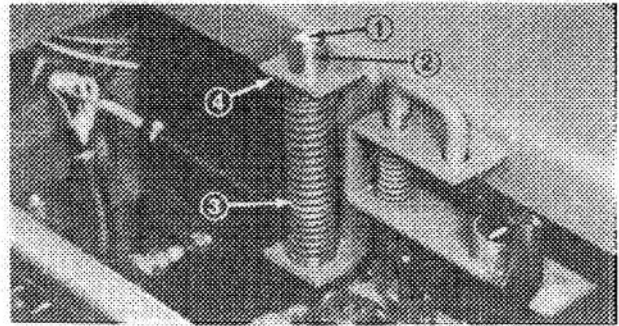

Figure 5
7. Secure olive colored spring from deluxe seat kit and pin to seat support bracket by compressing spring and inserting roll pin through pin (Fig. 5).